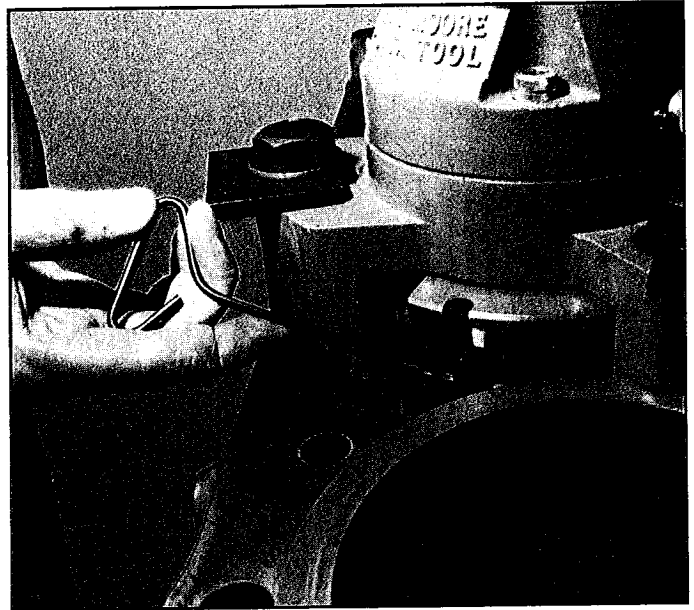

Figure 14
13. Loosen swivel pad set screw and insert cutter removal key into shallow hole in bottom of cutter and pull, to remove cutter from plate. Remove boring machine. (See Figure 14)